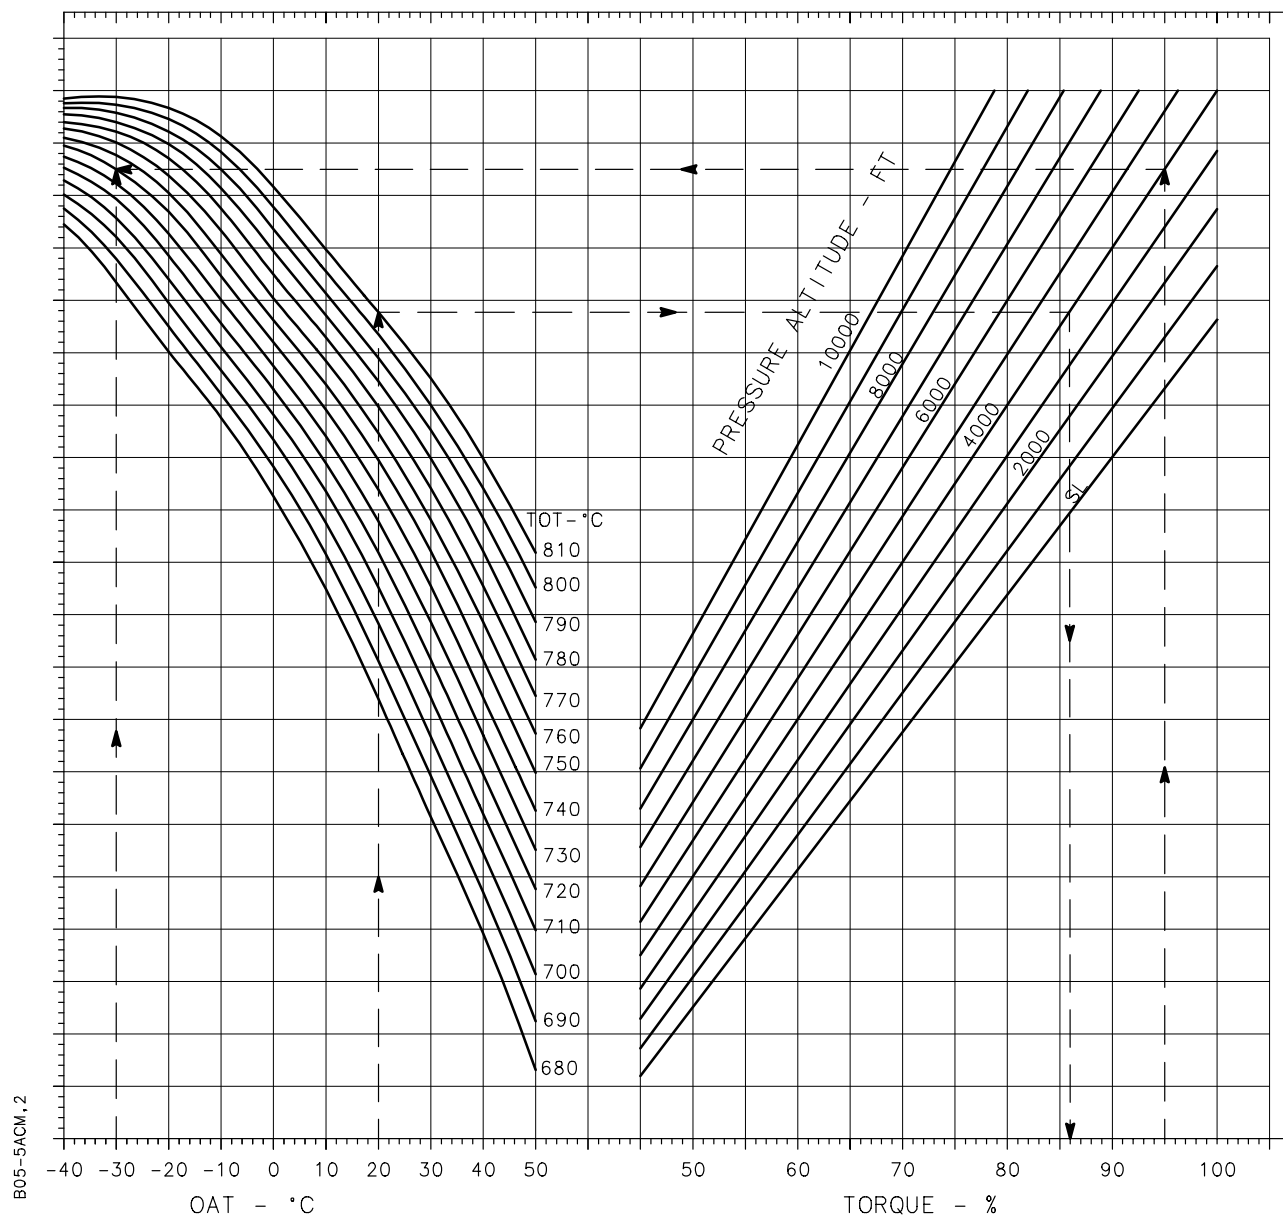

Fig. 5-1 Inflight Power Check (Anti-icing - OFF)
- Pressure Altitude (FT)
15. After flight, use the appropriate Inflight Power Check diagram (see Fig. 5-1 or 5-1A) to determine either maximum TOT or minimum required torque available under the prevailing ambient conditions.
EXAMPLE: (see Fig. 5-1)
11. Following flight, use the appropriate Inflight Power Check diagram (see Fig. 5-1 or 5-1A) to determine the minimum required torque available under the prevailing ambient conditions.